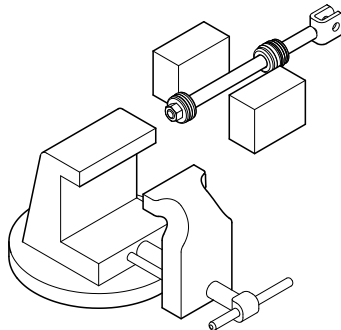

Figure 5-2, Cylinder Shaft
6. Clamp the rod assembly in a soft jawed vise on the wrench flats, not on the rod surface. If the rod does not have wrench flats use two pieces of wood on both sides of the rod to prevent scaring. (Figure 5-2)